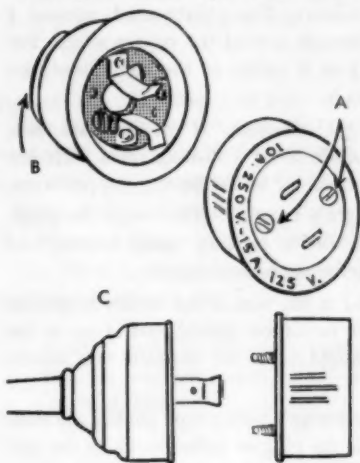

Figure 2. Attaching an extension cord to a cord connector and attachment plug cap
1. Remove the screws holding the two parts of the cord connector together (figure 2 a).
5. Insert the cord into the top end of the cord connector (figures 2 b and c).
10. Reassemble the cord connector (figure 2 c) by replacing the two screws that hold the two parts together.